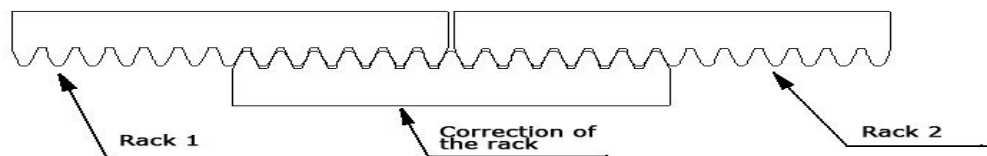

Fig 2
2. Rack is usually unit assembly, in order to avoid gate run jitter or jammed, rack and joint clearance must be corrected. Suggest use this way, see fig 2. With a small correction of the rack , after connecting right with racks 1 and racks 2 , then fixed racks 1 and 2.